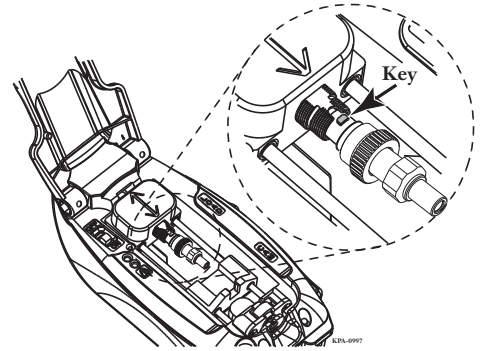

Figure 54 — Install New Ferrule Adapter
Step 4: Install the new Ferrule Adapter onto the Ferrule Adapter Port in the VFL Coupler (Figure 54).